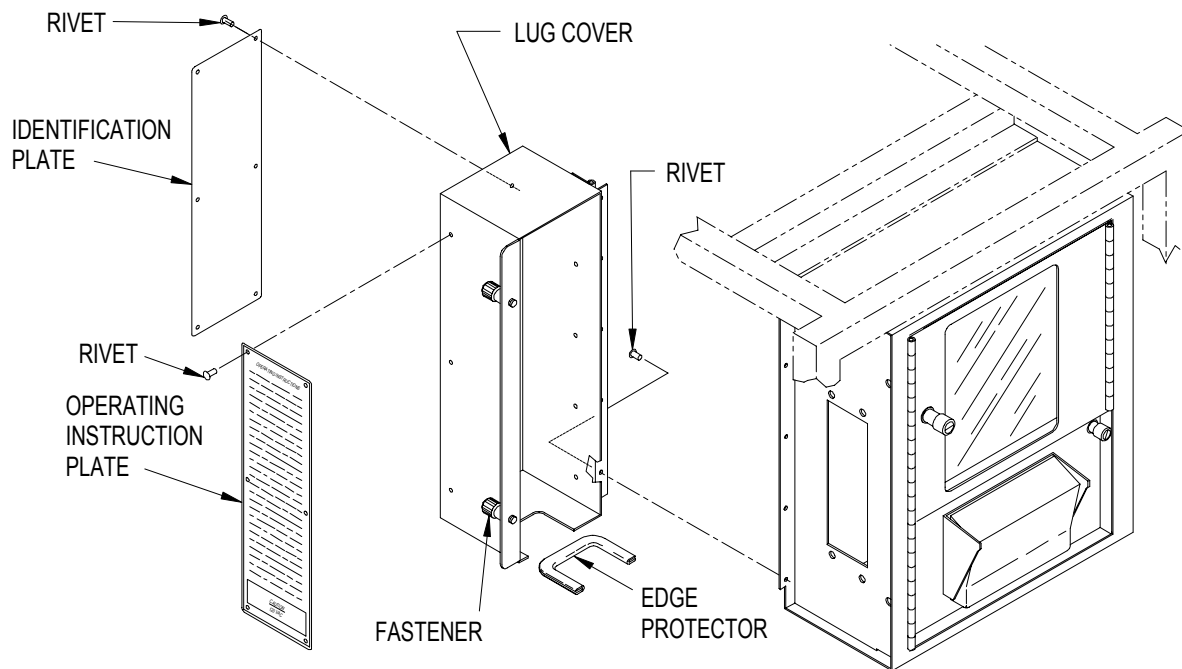

Figure 4-45. Load Terminal Board Cover (Lug Cover)
- (1) Shut down generator set.
- (2) Release lug cover by turning two fasteners, open lug cover.
- (3) Remove rivets (Figure 4-45) and lug cover from control panel.
- (4) If necessary, remove rivets and operating instruction plate from lug cover.
- (5) If necessary, remove rivets and identification plate from lug cover.
- (6) If necessary, remove edge protector and adhesive residue from lug cover.
- (1) If removed, install edge protector (Figure 4-45) on lug cover with contact adhesive (Item 2, Appendix E). Follow manufacturer's instructions for application of contact adhesive.
- (2) If removed, install identification plate on lug cover with new rivets.